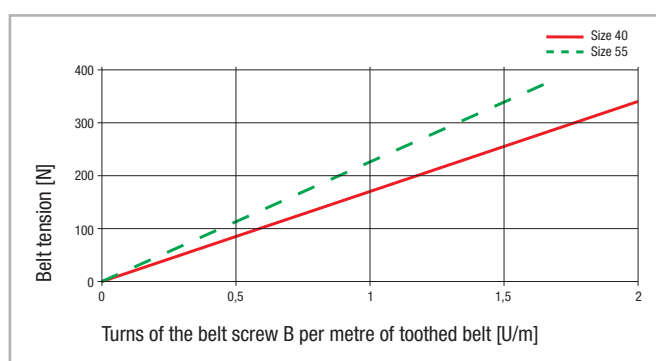

Fig. 95
2. Figures 95 and 96 show how many turns the belt tensioning screws B must be for the required belt tension deviation.
2. Figures 95 and 96 show that the value by which the belt tensioning screws B must be turned to increase the belt tension by 110 N is 0.5 turns.